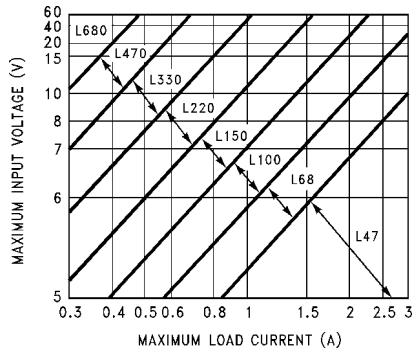
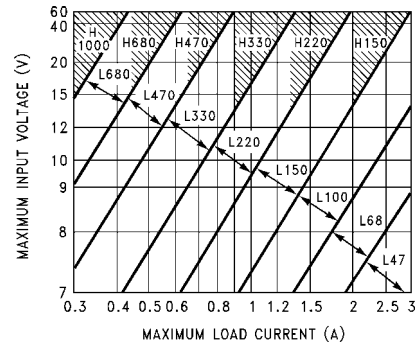
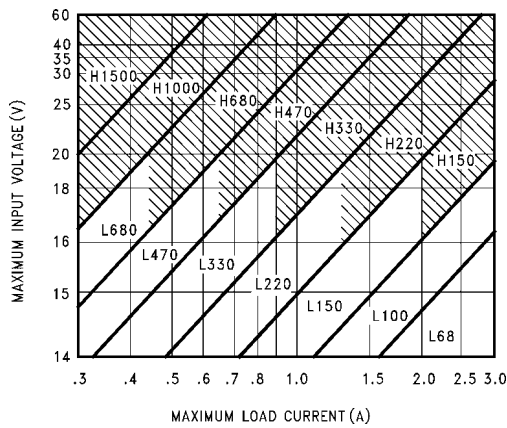
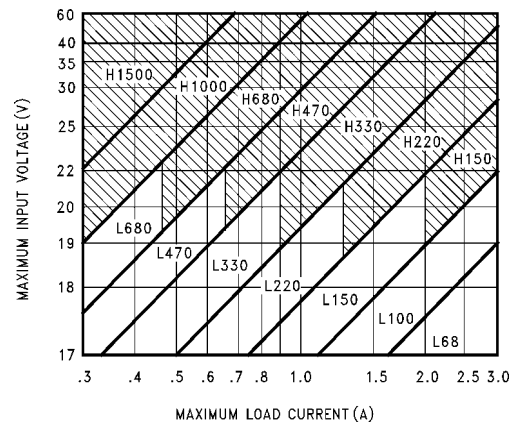

图 8-4. LM2576(HV)-3.3
图 8-5. LM2576(HV)-5.0
图 8-6. LM2576(HV)-12
图 8-7. LM2576(HV)-15
The inductor value selection guides in 图 8-4 through 图 8-8 are designed for buck regulator designs of the continuous inductor current type. When using inductor values shown in the inductor selection guide, the peak-to-peak inductor ripple current is approximately 20% to 30% of the maximum DC current. With relatively heavy load currents, the circuit operates in the continuous mode (inductor current always flowing), but under light load conditions, the circuit is forced to the discontinuous mode (inductor current falls to zero for a period of time). This discontinuous mode of operation is perfectly acceptable. For light loads (less than approximately 300 mA), it can be desirable to operate the regulator in the discontinuous mode, primarily because of the lower inductor values required for the discontinuous mode.
1. Select the correct Inductor value selection guide from 图 8-4, 图 8-5, 图 8-6, or 图 8-7. (Output voltages of 3.3 V, 5 V, 12 V or 15 V respectively). For other output voltages, see the design procedure for the adjustable version. Use the selection guide shown in 图 8-5.
- Identify the inductor value from the inductor code, and select an appropriate inductor from the table shown in Figure 8-4. Part numbers are listed for three inductor manufacturers. The inductor chosen must be rated for operation at the LM2576 switching frequency (52 kHz) and for a current rating of $1.15 \times I_{LOAD}$. For additional inductor information, see Section 8.1.2. Inductor value required is 100 μH from the table in Figure 8-4. Choose AIE 415-0930, Pulse Engineering PE92108, or Renco RL2444.